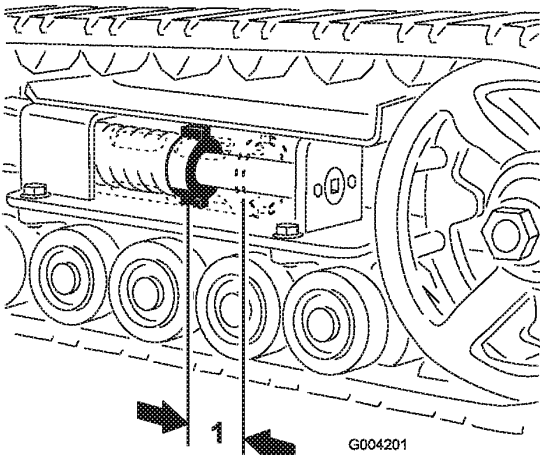
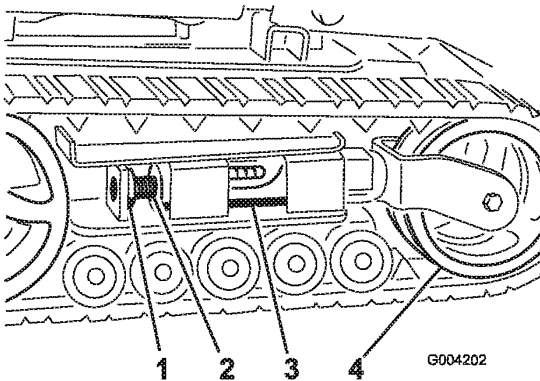
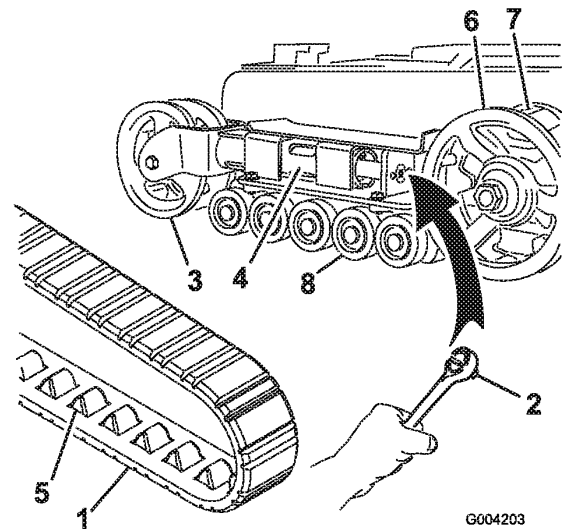
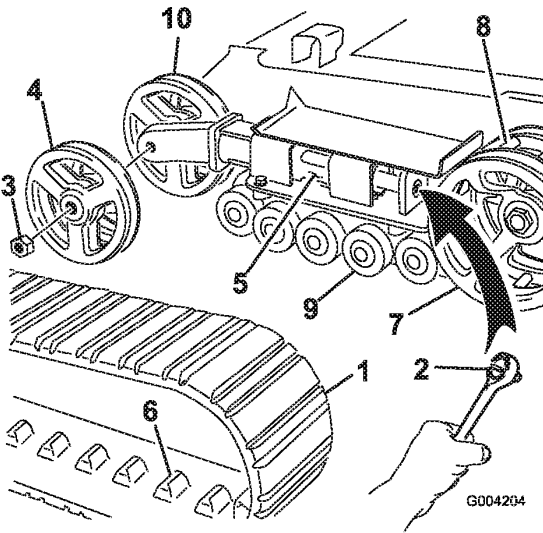

Figure 37
Figure 38
Figure 39
Figure 40
Check and adjust the track tension after the first 50 operating hours and every 100 operating hours thereafter. There should be 2-3/4 inches (7 cm) between the tension nut and the back of the tension tube (Figure 37). If not, adjust the track tension using the following procedure:
3. Remove the locking bolt and nut (Figure 38).
4. Using a 1/2 inch drive socket (Figure 39), turn the tensioning screw counter-clockwise until the distance between the tension nut and the back of the tension tube (Figure 37) is 2-3/4 inches (7 cm).
5. Align the closest notch in the tension screw to the locking bolt hole and secure the screw with the locking bolt and nut (Figure 38).
4. Using a 1/2 inch drive socket, release the drive tension by turning the tensioning screw clockwise (Figure 38 and Figure 39).
5. Push the tension wheel toward the rear of the unit to move the fork tube against the frame (Figure 39). (If it does not touch the frame, continue turning the tensioning screw until it does.)
7. When the track is off of the tension wheel, remove it from the drive sprocket and road wheels (Figure 39).
8. Beginning at the drive sprocket, coil the new track around the sprocket, ensuring that the lugs on the track fit between the spacers on the sprocket (Figure 39).
9. Push the track under and between the road wheels (Figure 39).
11. Turn the tensioning screw counter-clockwise until the distance between the tension nut and the back of the fork tube (Figure 37) is 2-3/4 inches (7 cm).
4. Using a 1/2 inch drive socket, release the drive tension by turning the tensioning screw clockwise (Figure 38 and Figure 40).
5. Push the tension wheel toward the rear of the unit to move the tension tube against the frame (Figure 40). (If it does not touch the frame, continue turning the tensioning screw until it does.)
6. Remove the nut securing the outer tension wheel and remove the wheel (Figure 40).
7. Remove the track (Figure 40).
8. Remove the nut securing the inner tension wheel and remove the wheel (Figure 40).
12. Install the inner tension wheel and secure it with the nut removed previously (Figure 40).
14. Install the new track, ensuring that the lugs in the track fit between the spacers in the middle of the drive sprocket (Figure 40).
15. Install the outer tension wheel and secure it with the nut removed previously (Figure 40).
17. Turn the tensioning screw counter-clockwise until the distance between the tension nut and the back of the tension tube (Figure 37) is 2-3/4 inches (7 cm).